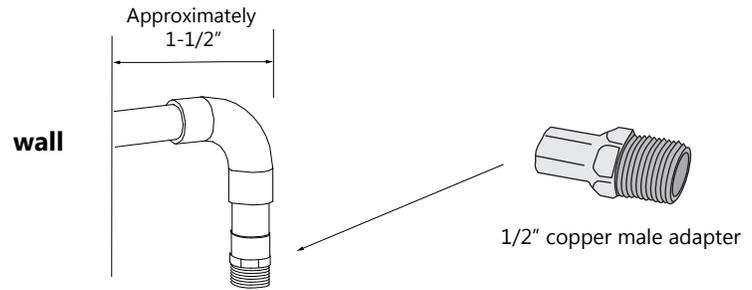

Fig 1
1. The stub-outs for the shower panel should be 1/2" copper pipe, angled down with 90-degree elbows, extending approximately 1-1/2" from the wall, with 1/2" male threaded adapters on the ends. That will make attachment of the unit's supply lines easier and allow the unit to sit flush against the wall. Please note the rear opening width of the shower panel unit and be sure your stub-outs are close enough together and at the proper height for easy installation. If this unit is a replacement, make sure all unnecessary wall openings are closed prior to installation. **(Fig 1)**